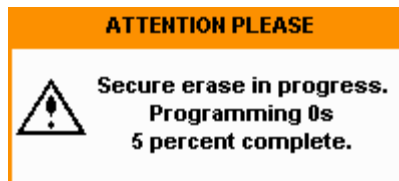

Figure 4-3 Secure erase status pop-up
6. A pop-up appears, as shown in Figure 4-3 informing you of the status of the procedure.